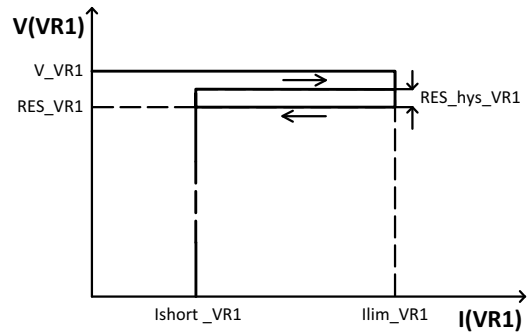

Figure 7. VR1 Current Fold-back
- ◆ VR1 Current Limitation – the two-level current limitation controlled by VR1 reset comparator to reduce the power dissipation in case of shorts to ground by the current fold-back (see Figure 7)